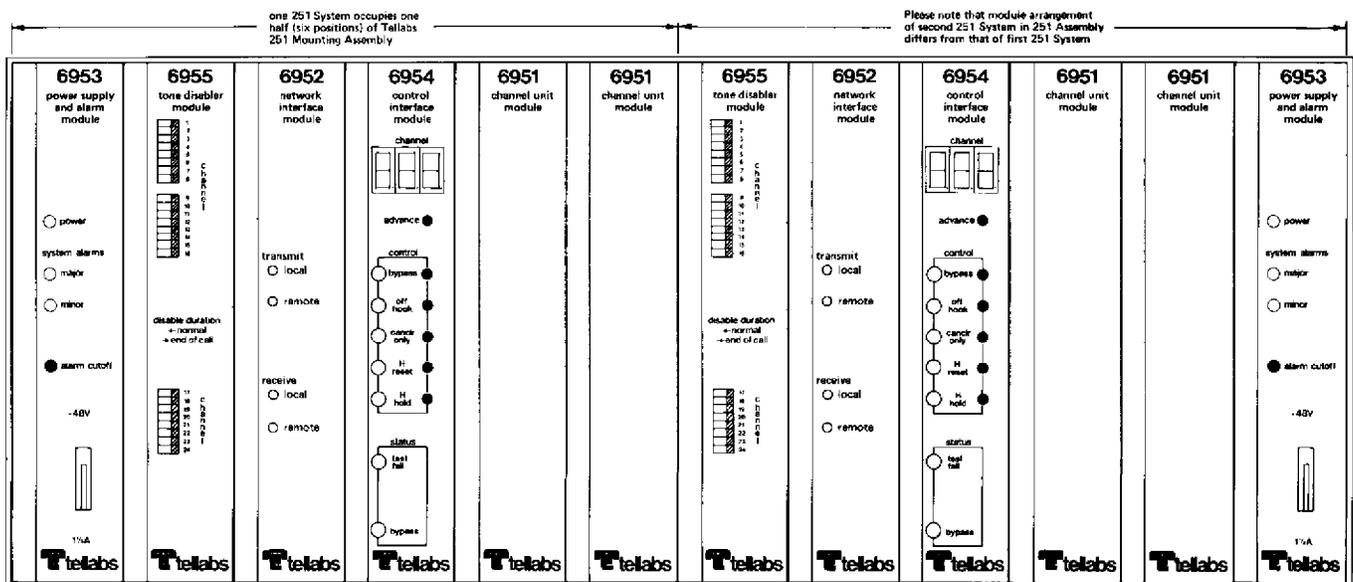

figure 2. Front detail of typical 251 System (Note: Two Systems, each containing the optional 6955 module, are shown in the same 251 Assembly)
1.08 Compact in size, an entire 251 System comprises only six Tellabs Type 16 modules (five modules if a tone disabler is not desired) and a prewired mounting assembly, as shown in figure 2. Each of these System components is described briefly below.
2.05 All internal System control functions originate in, and all externally derived System control functions are handled through, the 6954 Control Interface Module. Pushbutton switches and LED's on the 6954's front panel (see figure 2) provide the means for programming both System and individual-channel operating parameters (in effect, optioning the System for its particular application). These codes are stored in a special nonvolatile memory that retains all stored information even if power to the 251 System fails. After the desired operating parameters are programmed, the 6954's pushbuttons and LED's can be used to display the status of these parameters at any time. Specifically, the *channel* LED window and *advance* pushbutton are used to select and display the channel number, and the *five control* and *two status* LED's indicate the selected channel's status. The five pushbuttons associated with the *control* LED's are used to control the indicated functions. Options that can be